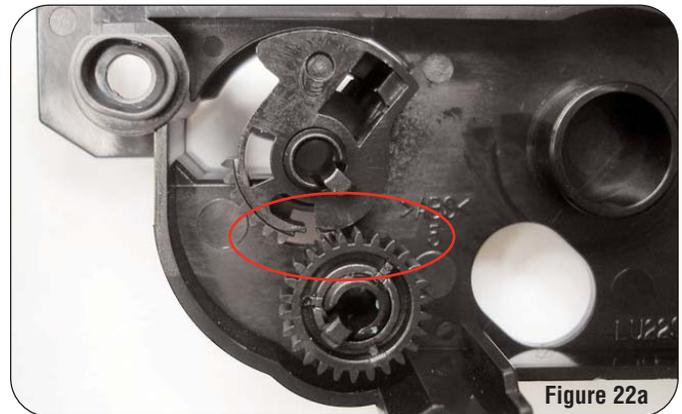

Figure 20b
6. Before reinstalling the drive side end plate, the flag gears must be reset. Rotate the flag counter clockwise as shown in Figure 19b. This will reset the flag gear. See Figure 20b.